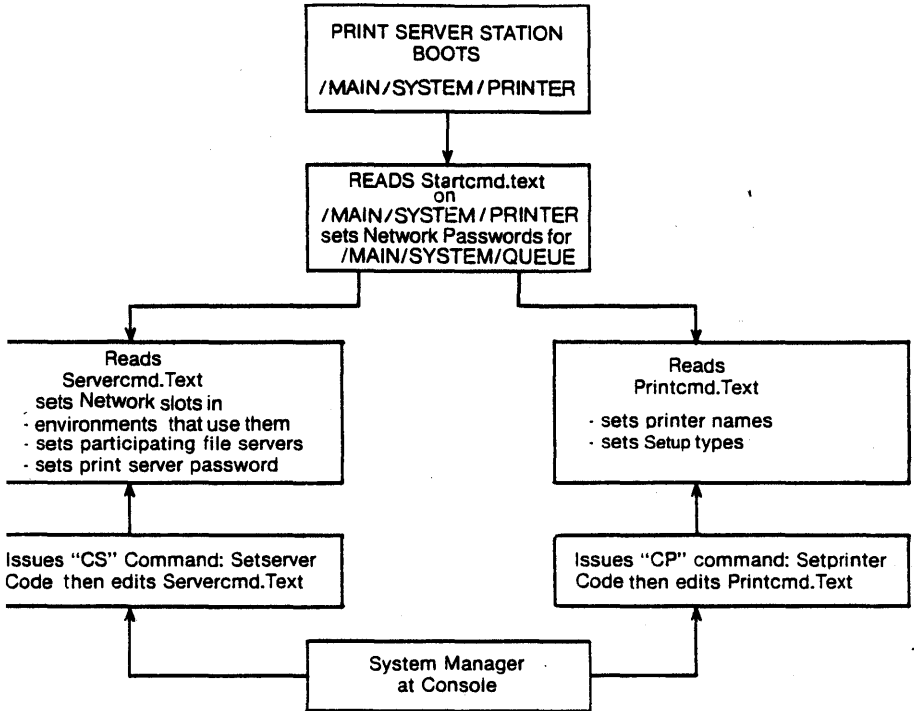

Figure 3
6. Parameters such as printer names, setup types, and file server addresses are set by SERVER from values found in Servercmd.Text and Printcmd.Text on the print server's boot volume /MAIN/SYSTEM/PRINTER (Figure 3). The SERVER program reads Servercmd.Text and Printcmd.Text each time that it is executed, and uses the names set there to identify printers, the paper or forms they use, other details of printer setup, and the names of the server boot volume header files that contain title page formats for the printers.